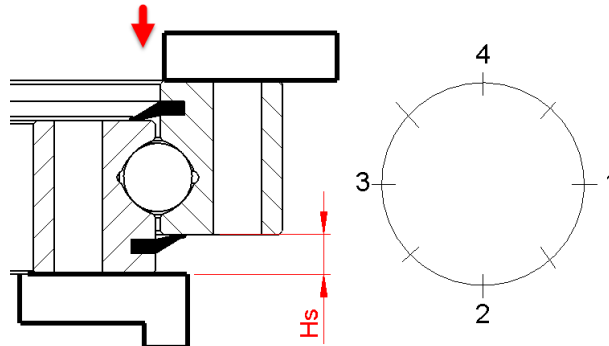

Figure 2: measurement points
- Repeat this procedure so that you can control the entire slewing ring as in **Figure 2**.